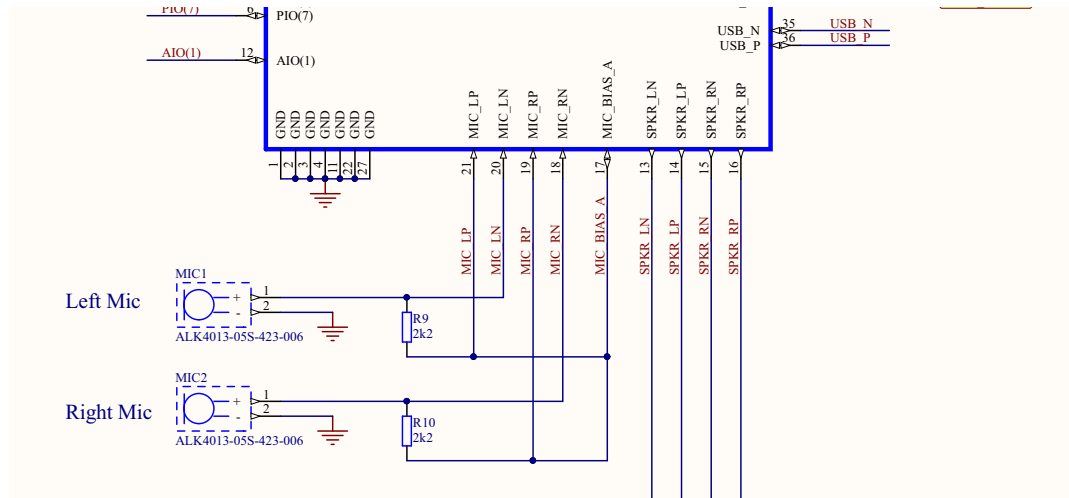
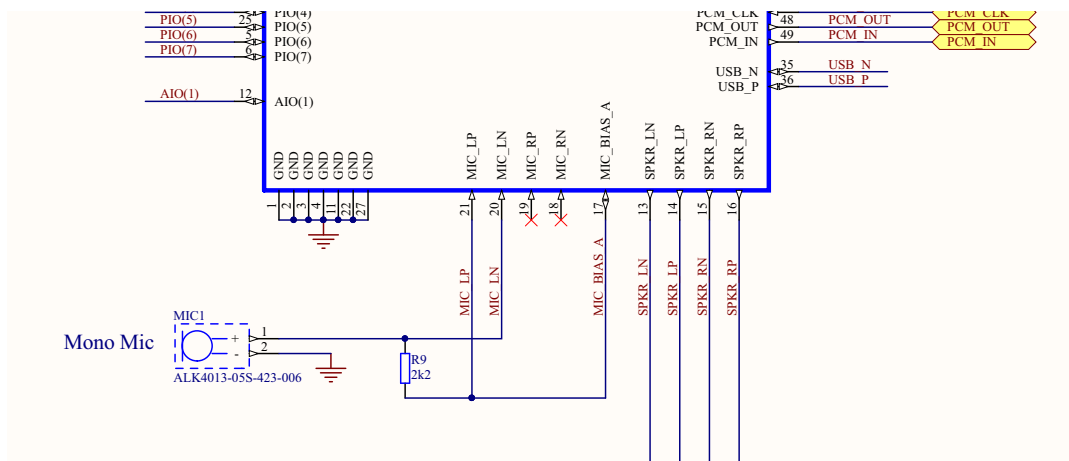

Figure 4-2: Stereo Microphone Example Schematic
Figure 4-3: Mono Microphone Example Schematic
Figure 4-2 and Figure 4-3 illustrate example microphone (mono and stereo) schematics:
- R9 and R10 (shown in Figure 4-2 and Figure 4-3) set the microphone load impedance and are typically 2.2 k Ω .